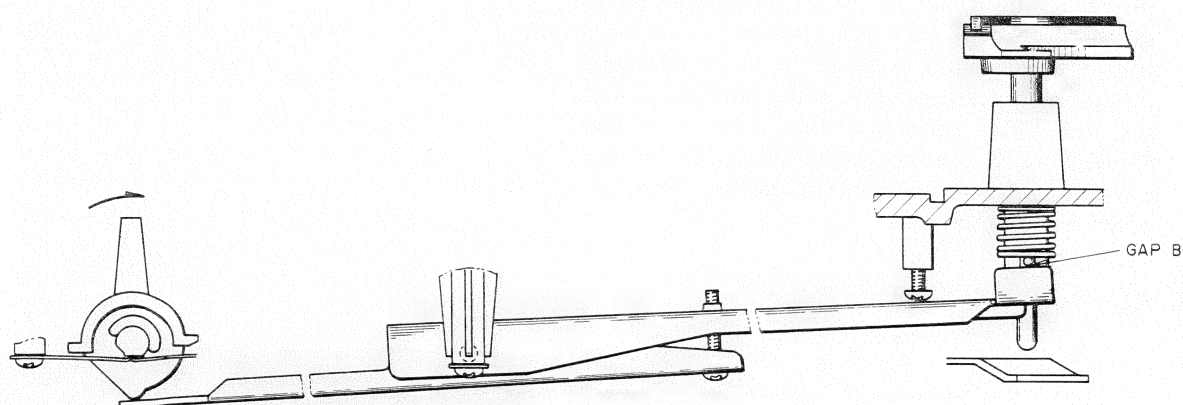

Fig. 17
2. Next operate the auto return (turn the main gear by hand) and raise the arm lifter. With the elevation control at ▼, adjust screw (b) at exactly the point where the gap (B) between the shaft pin and the elevation lever (A) disappears. (Refer to Fig. 17).